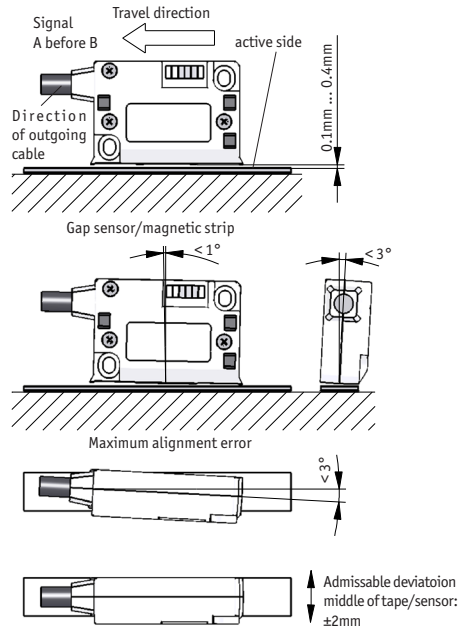

Fig. 6: Definition of the counting direction with magnetic strip and assemblage sensor/magnetic ring, gap measure, tolerances
- Observe the correct alignment with regard to the counting direction (fig. 6). This does not apply if the counting direction can be reversed in the electronic interpretation (e.g. in SIKO's magnetic-strip displays).